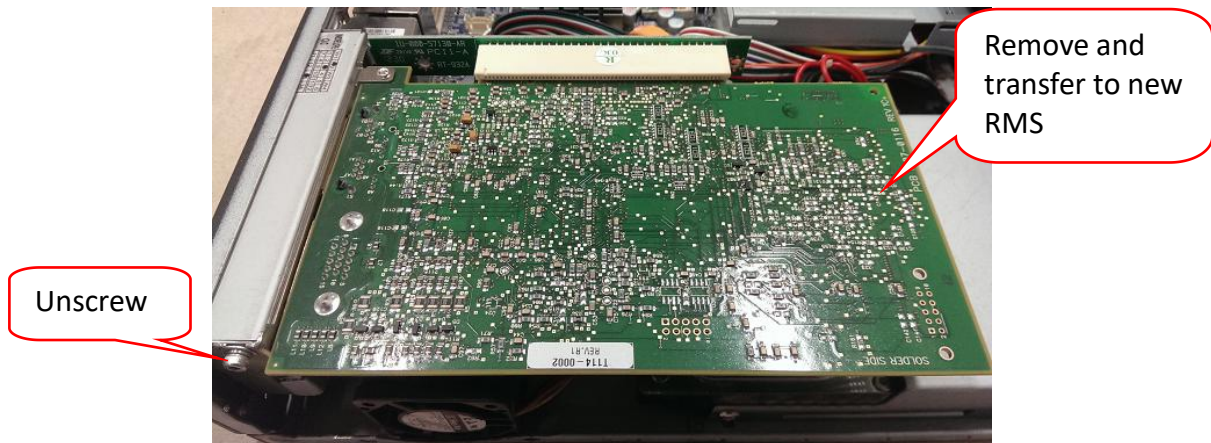

Figure 7 Mei Card removal
2. Go to “Control Panel” and view as “Category”, enter to “System and Security” tab as Figure 7.